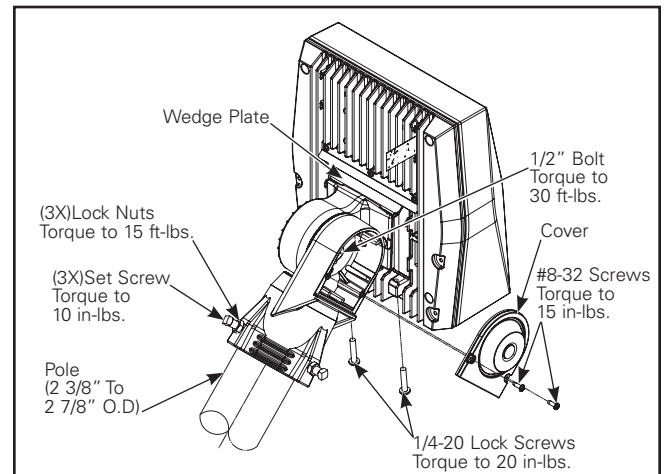

Figure 6. Axcnt Large
3. Attach the slipfitter assembly to the fixture. Ensure that the luminaire supply leads are completely underneath the wedge plate and are not pinched. Tighten the two 1/4-20 screws on the fixture to 20 in-lbs. (Figure 6.)
5. Place the wires down into the pole or up into the slipfitter body. Lower the slipfitter onto the top of the pole. Ensure that the supply leads are not pinched. (Figure 6.)
7. Remove (2) cover plate screws and cover plate. (Figure 6.)